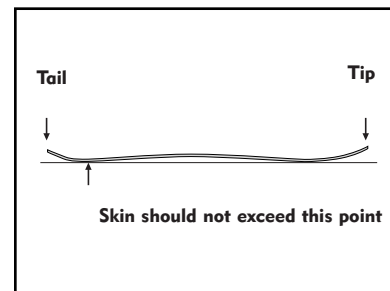

FIGURE 15
2.) Climbing skins should not exceed the length of the running surface of the board. If this length is exceeded trim with scissors or the included trim tool. Further if the width of the skin exceeds the width of the board half you can trim the excess width with included trim tool. It is also acceptable to trim the tail of the skin to match the curved contour of the tip of the skin where the tip loop is attached. This will prevent any glue from being exposed when the skins are folded glue to glue. (See Figure 15)